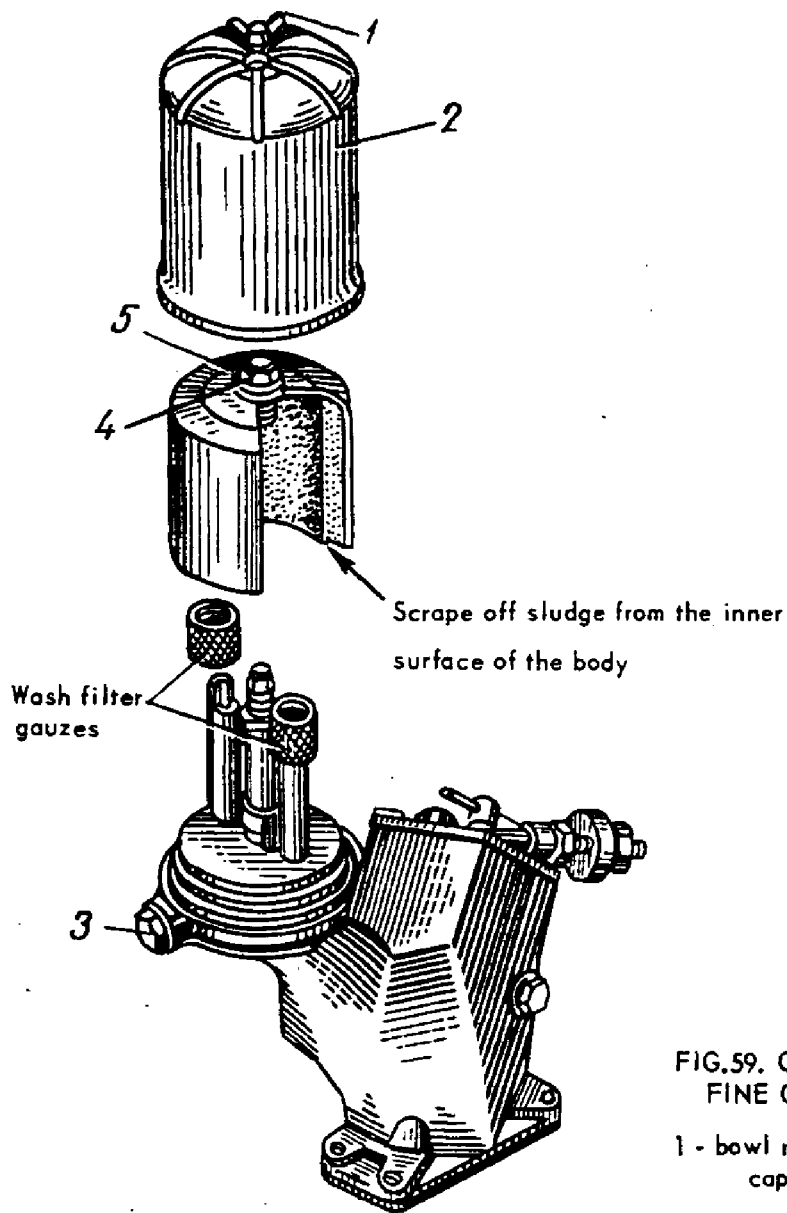

FIG.59. CLEANING AND WASHING FINE OIL FILTER
1. Unscrew wing nut 1 (Fig.59) of the bowl and remove bowl 2.